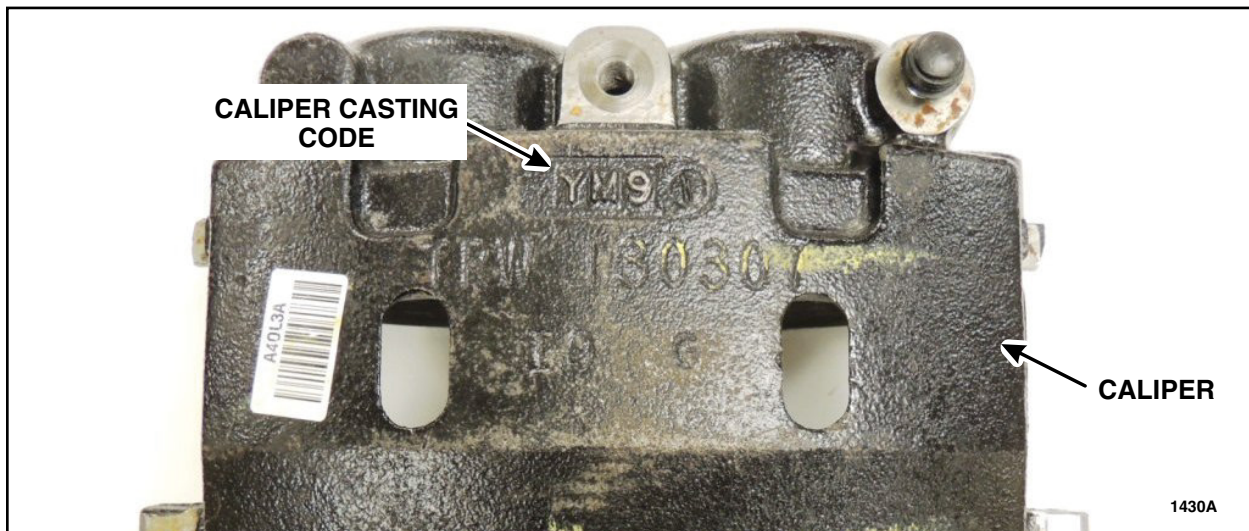

FIGURE 1
1. Inspect the caliper casting code on one of the four calipers. See Figure 1.